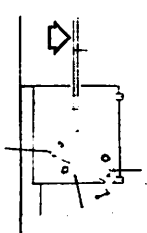

FIGURE 6
- A. Insert Winding Bar in hole at top of Tension Wheel and pull down as shown in Figure 6.